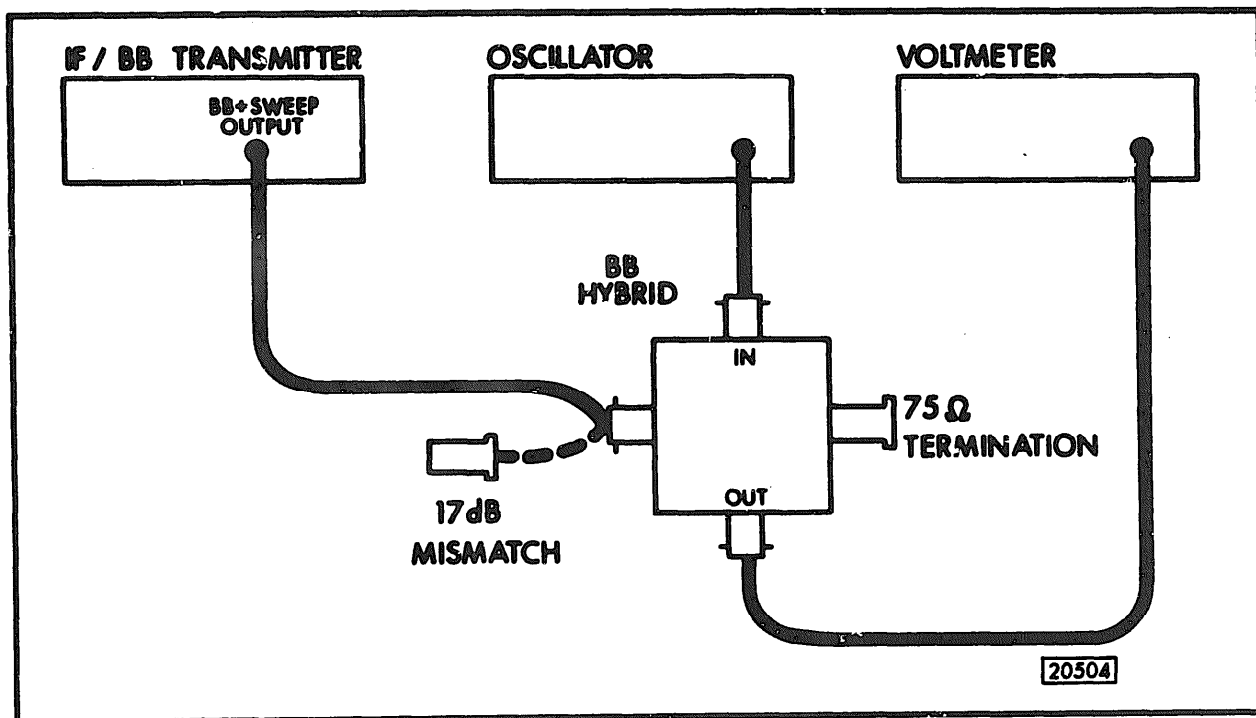

Figure 4-4 BB + Sweep Output - Return Loss Check
2. Set the BB FREQUENCY (9) to 83 Δ (Opt-92 Δ).
3. Connect the BB + SWEEP OUTPUT (C) to the Spectrum Analyzer input.
4. Measure the harmonic content of the BB + SWEEP OUTPUT (C) and check for >40dB down on the fundamental.
- Repeat step 4 for all settings of BB FREQUENCY (9) switch except OFF.
- Connect the equipment as in Figure 4-4 with the 17dB mismatch connected to the Hybrid.